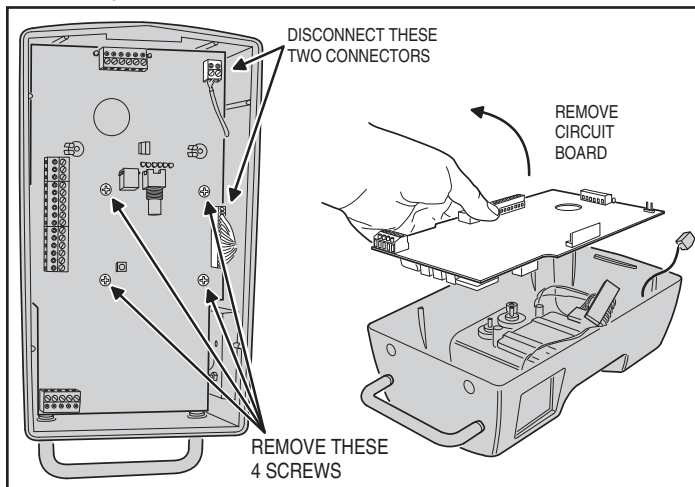

Figure 23. Removing the RE-1 Circuit Board
1. Disconnect the wiring harness connector and remove the antenna terminal block. Remove the four circuit board retaining screws and the RE-1 circuit board (see Figure 23).